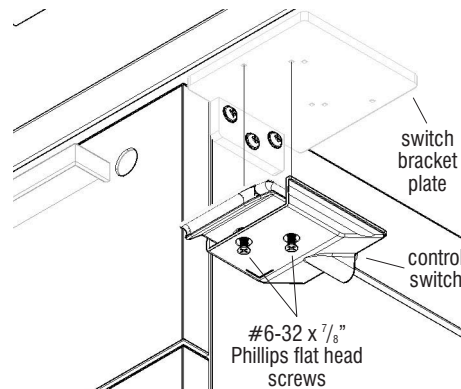

Figure 4
4. Align the mounting holes of the control switch with the mounting holes on the switch bracket plate. Secure switch to the plate using two #6-32 x $\frac{7}{8}$ " Phillips flat head zinc screws (Figure 4).